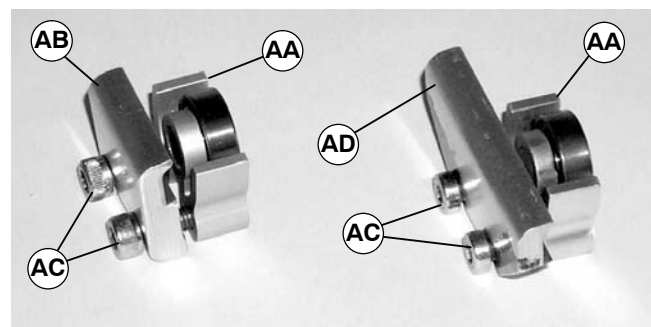

Figure 13
- Loosely attach clip (AB or AD of Figure 13) on guard (AA) with two screws (AC). Do not tighten screws.